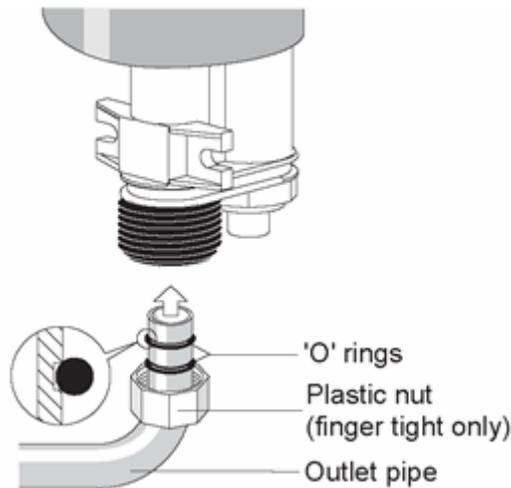

Figure 8 Fitting outlet spout
5.4 Fit the outlet spout - **DO NOT** over tighten, finger tight will be sufficient - see figure 8.